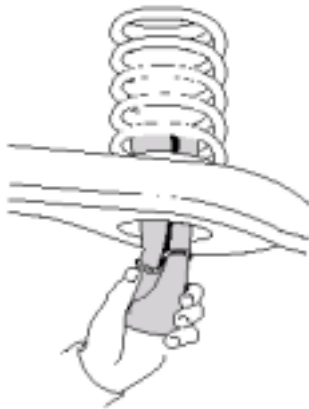

Figure 1
2. Remove plastic cap from barbed stem on end of cylinder. Exhaust the air from the cylinder by rolling it up toward barbed stem. Replace cap on stem to hold flat shape. Form cylinder into a "hot dog bun" shape. If necessary, use a string, tape, or wire to retain shape (Figure 1).
3. Insert formed air cylinder into lower coil spring seat opening with stem at the bottom (Figure 1).